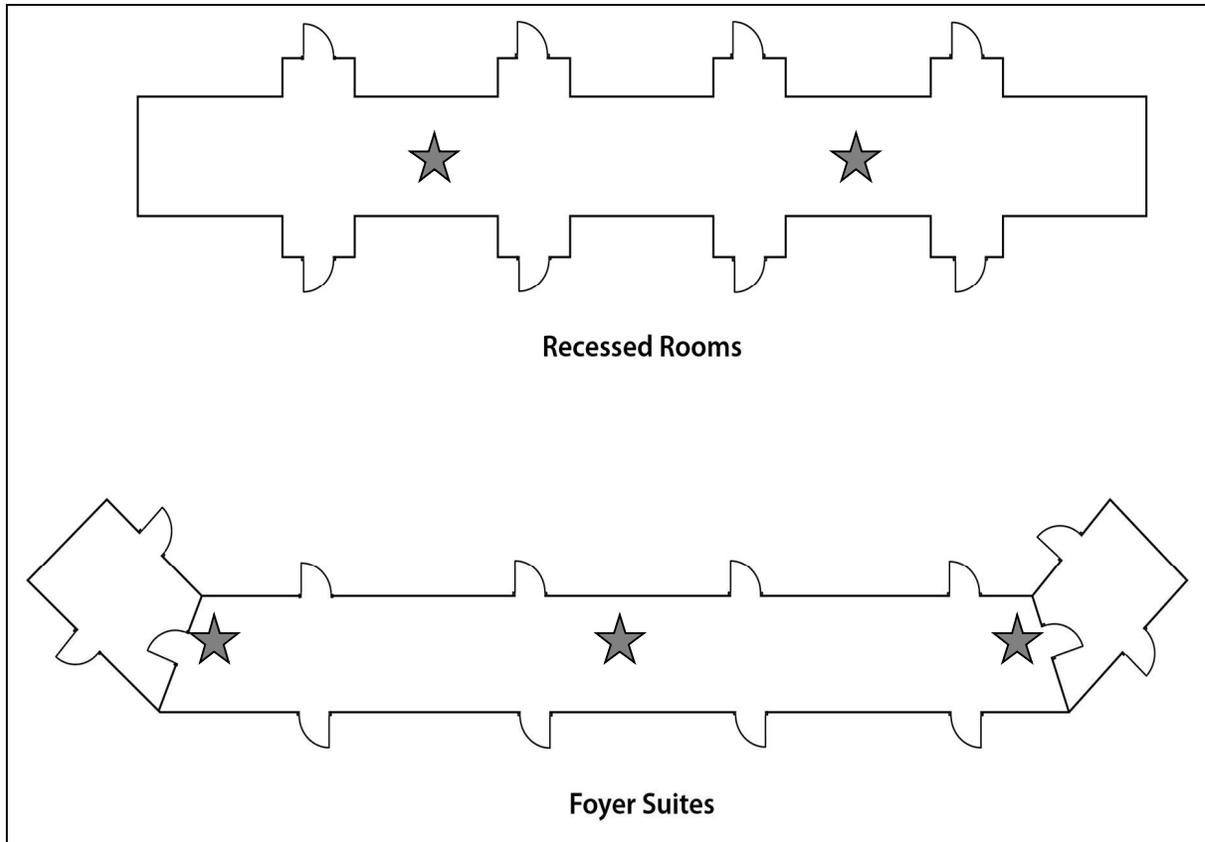

Figure 18 . Recessed Rooms and Foyer Suites
5.1.5 The properties illustrated in Fig. 18 feature special cases such as recessed rooms or a floor that contains foyer suites.